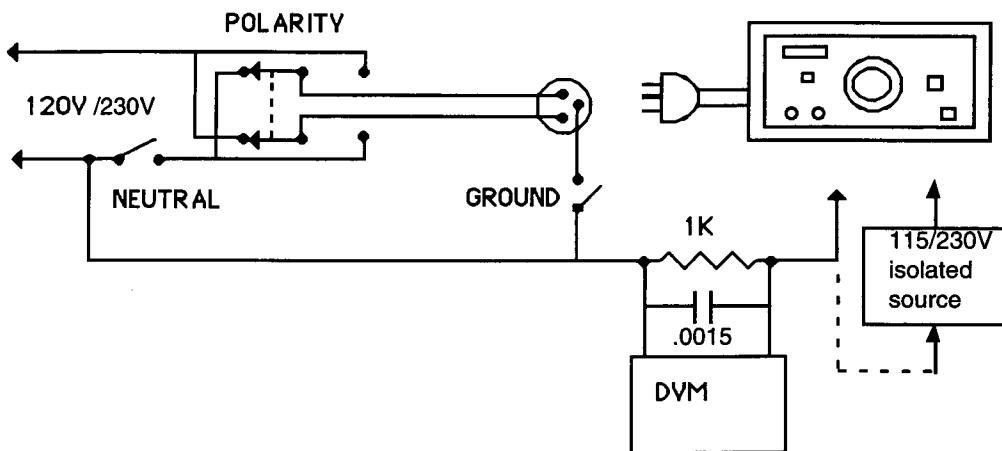

fig 2.1
- 2.4 Check AC leakage by using a commercial leakage tester or by using a testbox constructed so as to permit disconnecting ground, neutral and reversing AC polarity as in figure 2.1. Test leakage under any combination of the switch settings. All current readings should be less than the maximum reading in μ amps RMS read according to chart below between any chassis or electrode point and the test box.